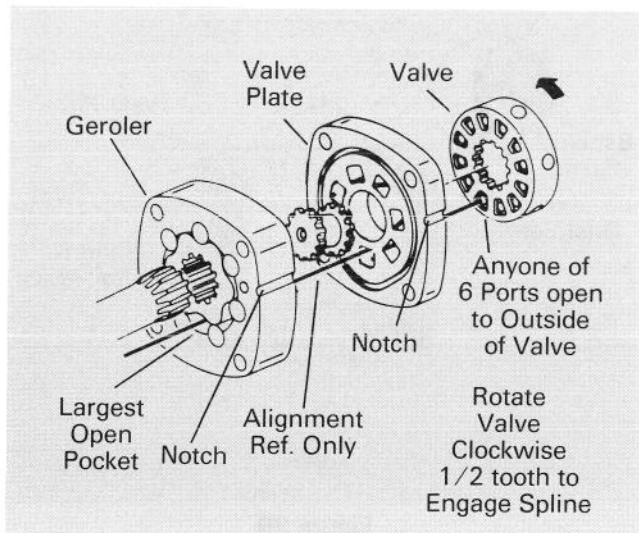

Figure 100
**Timing Step #1** — Locate the largest open pocket in the Geroler and mark it on the outside edge of the Geroler (Fig. 100).
14. Align the notch on the outside of the valve plate with the notch on the Geroler as shown in Fig. 100.